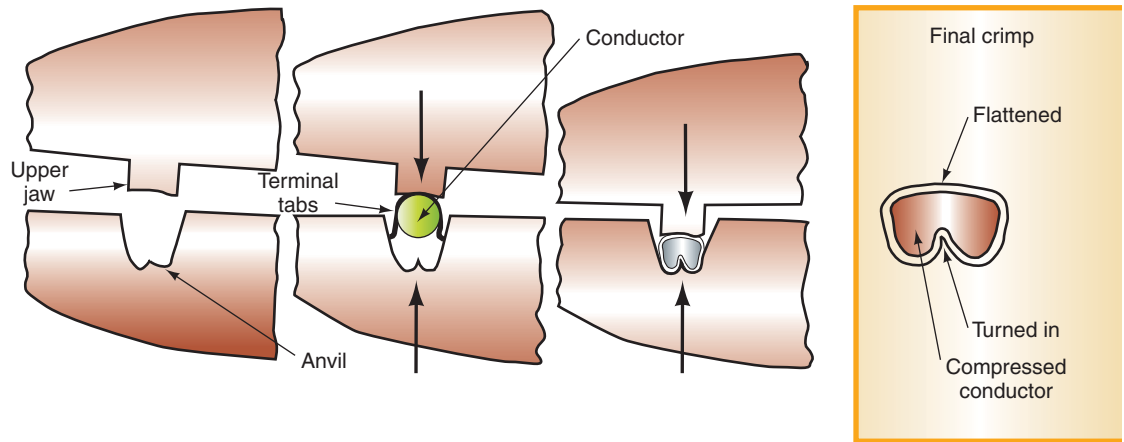

FIGURE 4-4 Properly crimping a connector.
2. Place the wire into the connector and crimp the connector (Figure 4-4). To get a proper crimp, place the open area of the connector facing toward the anvil. Be sure the wire is compressed under the crimp.